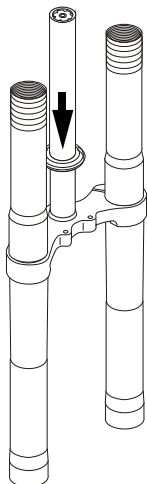

FIGURE 1
- 3.) Press the crown race onto the steerer of your White Brothers Fork (figure 1).